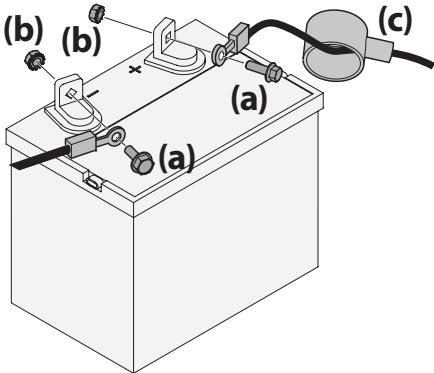

Figure 14
1. If present, remove the plastic cover from the positive battery terminal. Attach the red connector to the positive battery terminal (+) using the bolt (a) and hex nut (b). See Figure 14.
2. If present, remove the plastic cover from the negative battery terminal and attach the black cable to the negative battery terminal (–) with the bolt (a) and hex nut (b). See Figure 14.